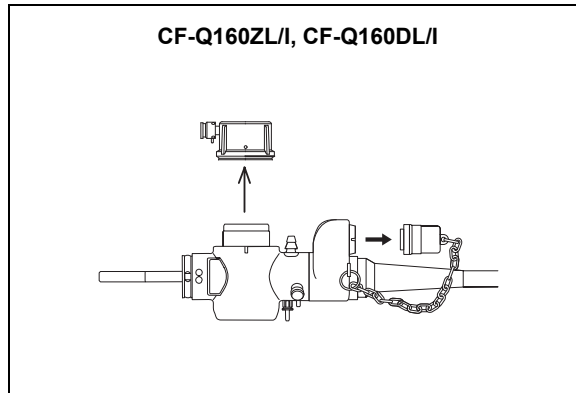

Figure 3.32
2. Remove the water-resistant cap (MAJ-583) before ETO gas sterilization (see Figure 3.32, for CF-Q160ZL/I only).
3. Remove the water-resistant cap (MAJ-942) before ETO gas sterilization (see Figure 3.32, for CF-Q160DL/I only).